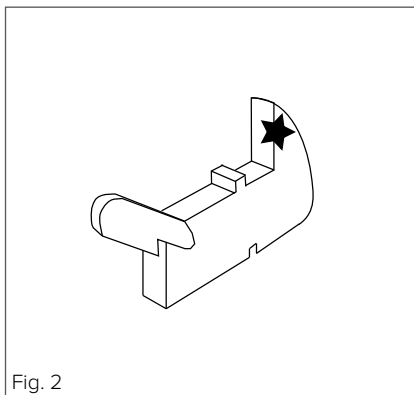

Fig. 2
- Hold the door to the appliance in the closed position and manoeuvre the hinges so that the part of the hinge, highlighted by the star in Fig. 2, inserts into the hinge slot in the cavity frame